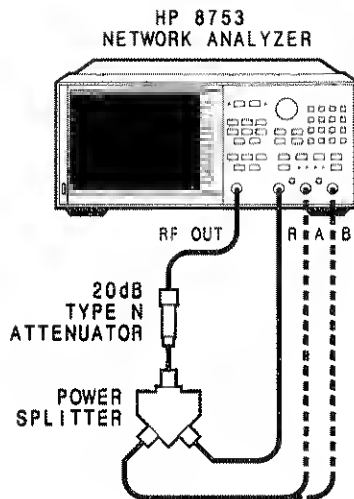

Figure 1. Operator's Check Equipment Setup.
The source output of the HP 8753B is divided by a power splitter, with one output arm driving the R input for phase locking, and the other arm driving either the A or B input (see Figure 1). A fixed coaxial 20 dB attenuator reduces the output power level so that the source may be exercised at high power levels without exceeding the maximum input power level.
1. Disconnect any test set from the HP 8753B. Connect the equipment as shown in Figure 1, with one power splitter output connected to input A on the HP 8753B. Make sure all connections are tight.
- a. Make sure the equipment is connected as shown in Figure 1. Check that all connections are tight. Repeat the test.